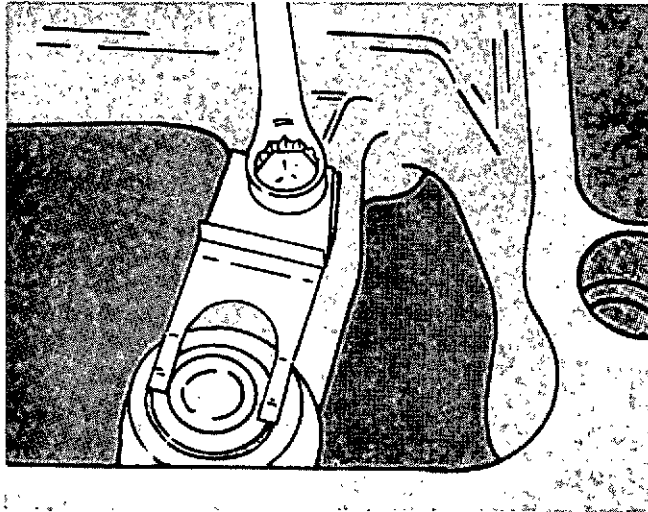

Fig. 20-19. Remove The Capscrew And Flat Spring.
1. Remove the capscrew and flat spring, Fig. 20-19. Take notice of the position of the flat spring before you remove it. The spring must be installed in the same position as when it was removed.